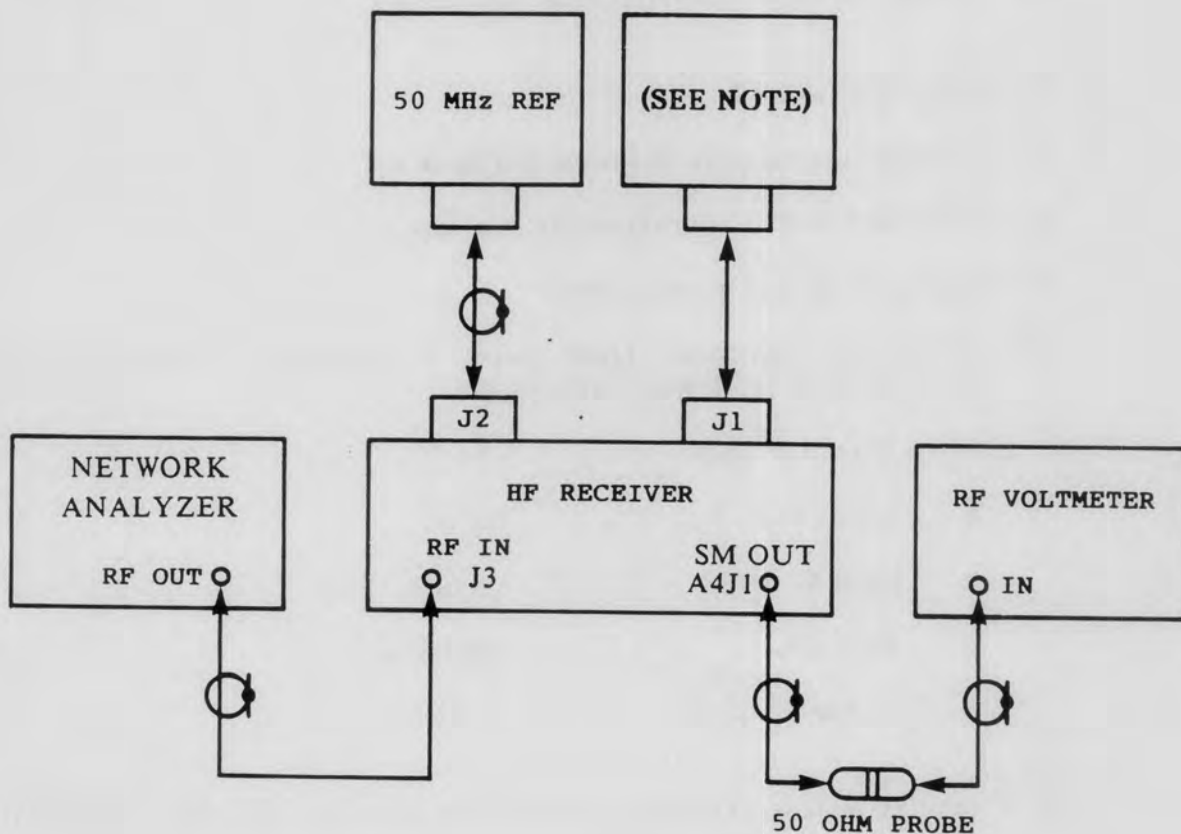

Figure 4-6. Input Filter Converter Adjustment Equipment Setup
1. Connect the receiver as shown in Figure 4-6.